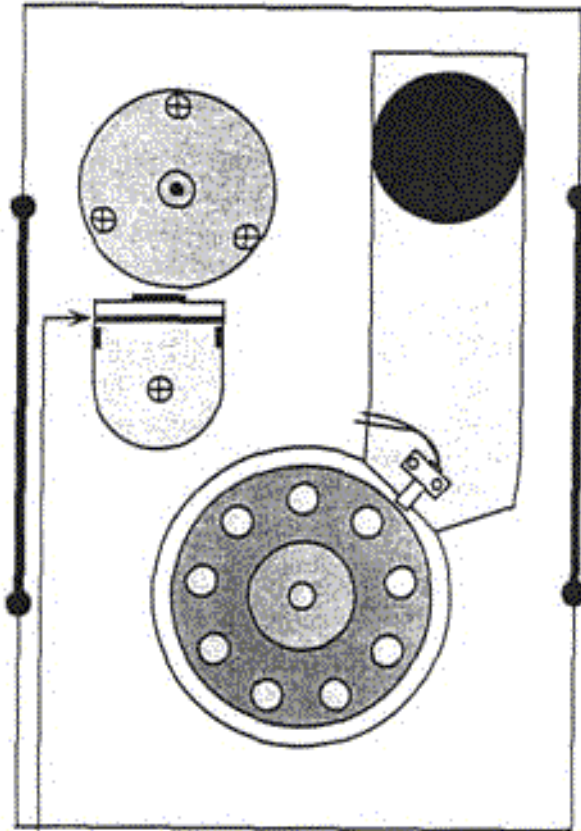

Figure 26
8. Locate the solenoid marked "Inertia Dynamics, Collinsville, CT USA." Insert a 0.012-inch feeler gauge as shown in Figure 26.